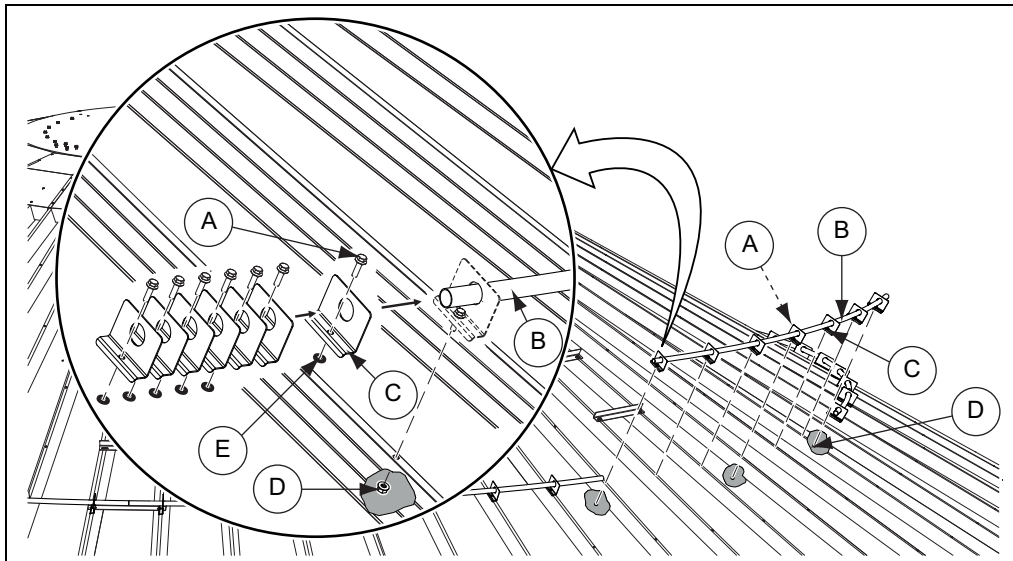

Figure 1 Exhauster Roof Ring Shown
2. Install a flange bolt (A) to the roof ring clip (C) and install a sealing washer (E) to the underside of the roof ring clip (C).
3. Slide each assembled roof ring clip (C) onto a roof ring section (B) and position each roof ring clip (C) over each roof panel rib.
4. Install a flange nut (D) to each roof ring clip (C). (See Figure 1.)